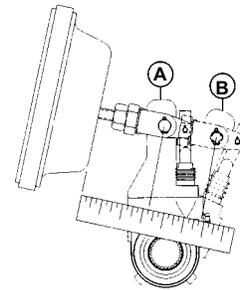

Figure 3 - Measuring Maximum “Applied Stroke”
3. Using a ruler, measure the distance from the face of the air chamber to the center of the large pin in the clevis (A) (See Figure 3). Make a 90 to 100 reservoir pressure psi brake application and allow the chamber push rod to travel its maximum stroke. Measure to the center of the large pin (B). The difference between (A) and (B) is the push rod stroke. Check the following charts for proper maximum stroke after adjustment of the brakes.